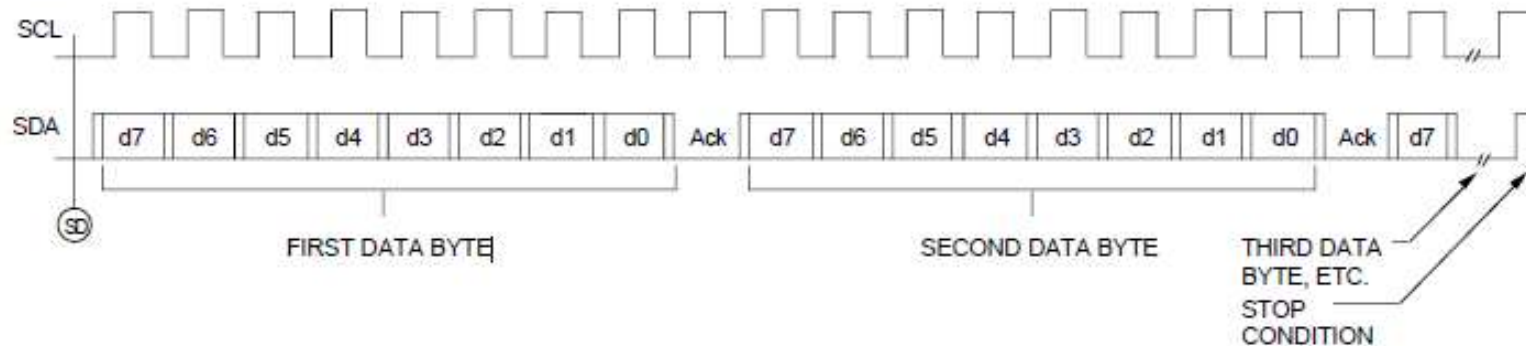

Figure 13 - Byte **Write** Sequence
- Figures 13 and 14 describe how the bit stream is set up for READ and WRITE mode in the microcomputer programming software prior to sending it on the two wire serial bus.